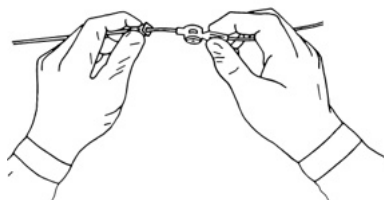

Fig. 4: Torquer use
- During the placing of the catheters, handle them by acting on the Torquer and grasping it from the knurled side (fig.4). The Torquer can be positioned anywhere on the outside portion of the catheter, depending on the operator's convenience. To move the Torquer from one position to another, press the white button and while holding down reposition the Torquer and release the button.